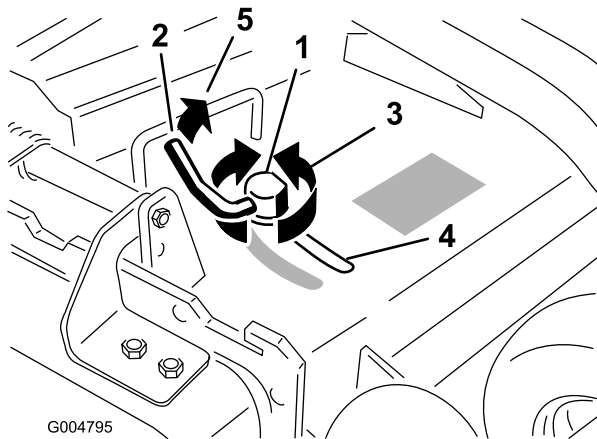

Figure 20
- To adjust the cam lock, swing the lever up to loosen the cam lock (Figure 20).
5. Swing the lever back over to tighten the baffle and cam lock (Figure 20).